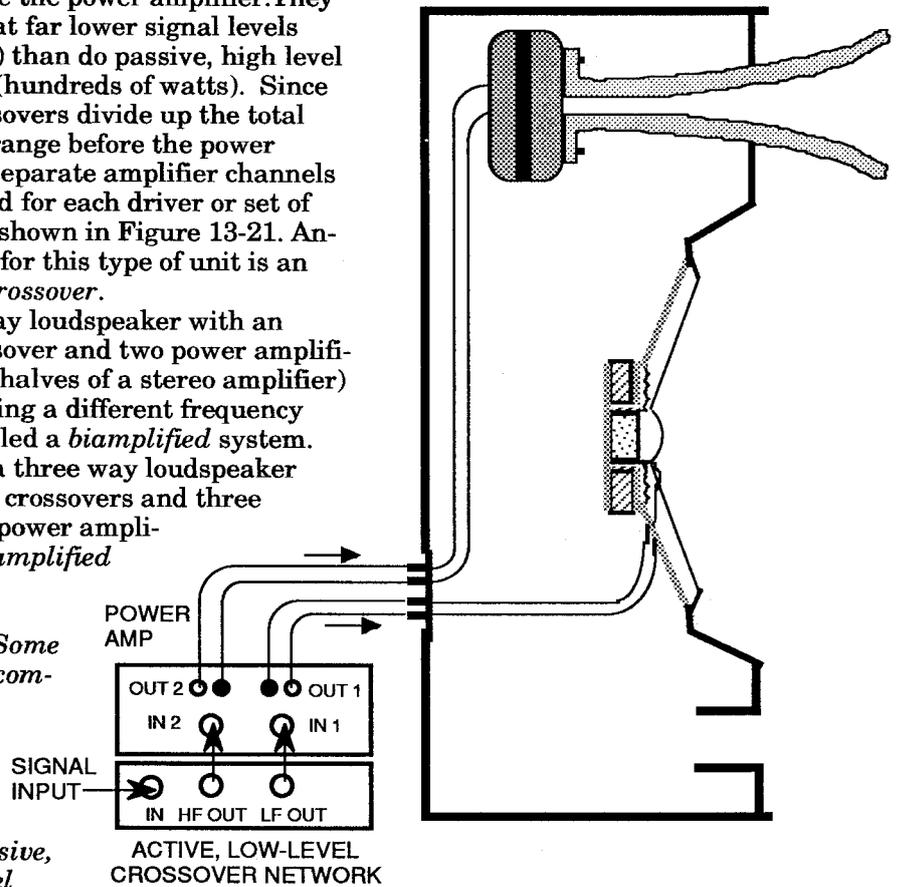

Figure 13-21. Typical location of an active (electronic) crossover network, just ahead of the power amplifiers
*Active crossover networks* are designed to be inserted in the signal chain before the power amplifier. They thus work at far lower signal levels (milliwatts) than do passive, high level crossovers (hundreds of watts). Since active crossovers divide up the total frequency range before the power amplifier, separate amplifier channels are required for each driver or set of drivers, as shown in Figure 13-21. Another term for this type of unit is an *electronic crossover*.